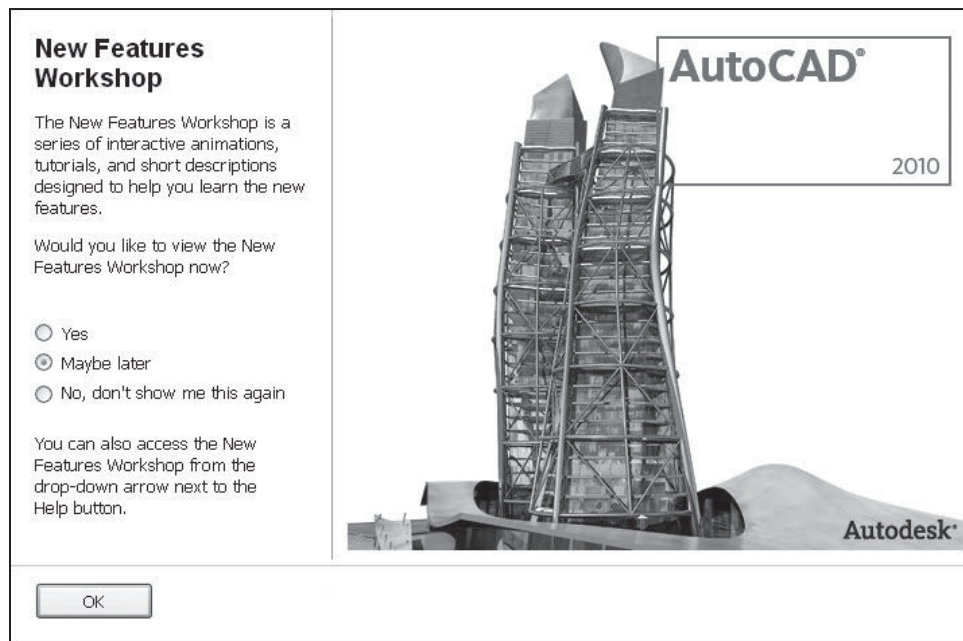

Fig. 1-1
2. If the **New Features Workshop dialog box** appears, as shown in Fig. 1-1, select the round button next to **No, don't show me this again** and pick the **OK** button. (A dialog box provides information and permits you to make selections and enter information. In this case, the dialog box asks you if you would like to view the **New Features Workshop**.)